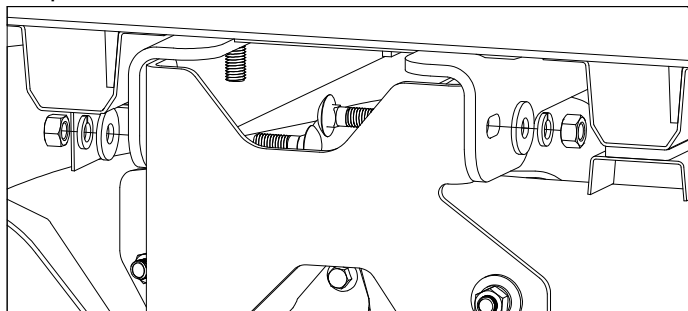

Figure D2: View looking into driver side wheel well.
2. **Attach side plates to cross members.** Attach the side plates to the cross members by passing two 1/2" X 1-1/2" carriage bolts through the side plate and cross members and secure with 1/2" flat washers, 1/2" lock washers, and 1/2" finish nuts, as shown in Figure D2. Do not fully tighten at this time. Repeat on the other side of the truck.